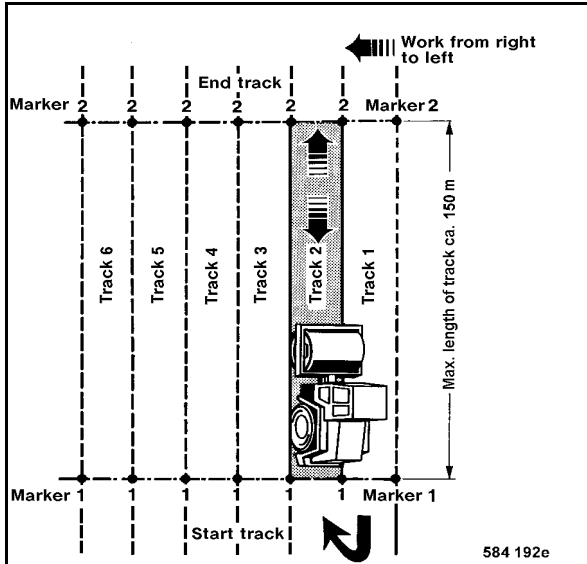

Fig. 100
- Repeat the complete compaction process on the next track (Fig. 100) to record measuring values.